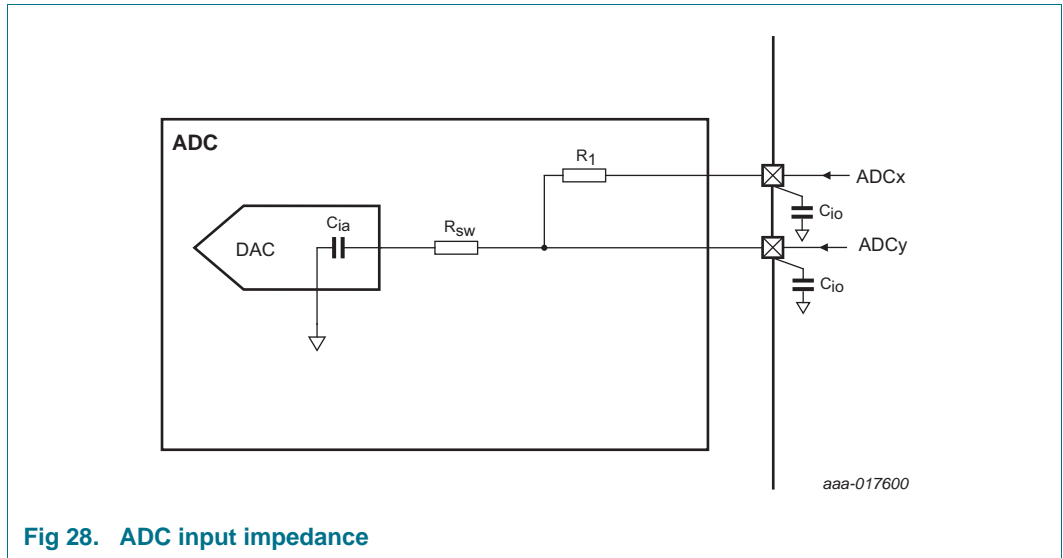

Fig 28. ADC input impedance
- [10] Input impedance  $Z_i$  is inversely proportional to the sampling frequency and the total input capacity including  $C_{ia}$  and  $C_{io}$ :  $Z_i \propto 1 / (f_s \times C_i)$ . See Table 19 for  $C_{io}$ . See Figure 28.
Figure 28 shows the ADC input impedance. In this figure: